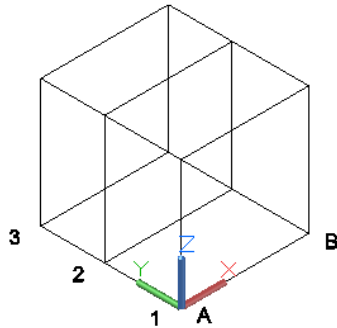

Figure 3-38 Model after creating the grid
3. Next, accept default values for other options and choose the **Create** button; the grid is created, as shown in Figure 3-38. Next, change the view orientation to **SW Isometric**.